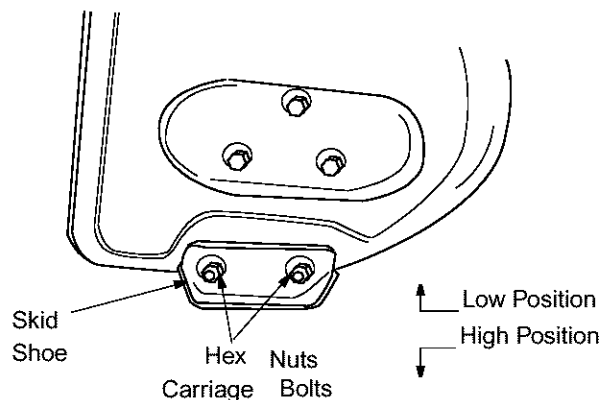

Figure 5
2. For close snow removal on smooth surface, raise skid shoes higher . See Figure 5.
3. Place skid shoes in middle or lower position when the area to be cleared is uneven. See Figure 5.
4. Adjust skid shoes by loosening the four hex nuts and carriage bolts as shown in Figure 5. Move skid shoes to desired position.